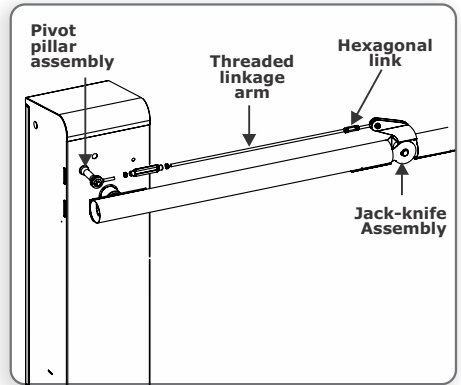

FIGURE 13
5. Using a hacksaw, cut the threaded linkage arm to the necessary length - which will correspond with the length of the boom pole - and assemble the linkage arm and link it to the **Jack-knife Assembly** first as per Figure 13.